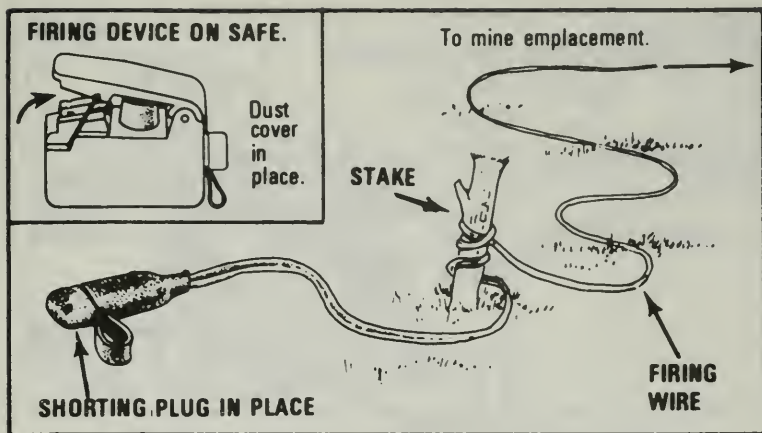

Figure 198. Firing wire secured.
b. Tie the shorting plug end of the firing wire to a fixed object, such as a stake or tree at the firing position (Figure 198). Place the bandoleer on your shoulder and unroll the firing wire to the selected installation position.